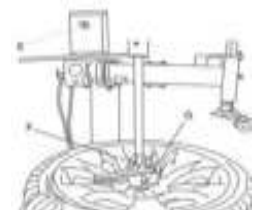

Fig 20
- G- Tyre pressing head (bottom) (E-G shown as fig 20)